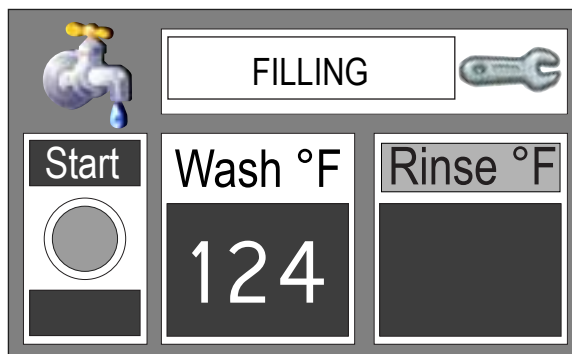

Fig. 12
- 2** Touch FILL RESET and then MAIN to clear the 'CHECK DRAIN' message. The display will return to the 'FILLING' shown in Fig. 12.